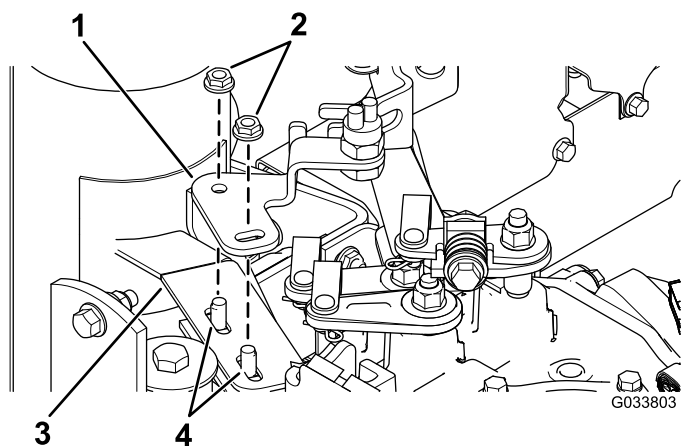

Figure 4
3. Install the ball-switch bracket to the muffler frame with the 2 carriage bolts (5/16 x 1 inch) and 2 locknuts (5/16 inch) as shown in Figure 4.